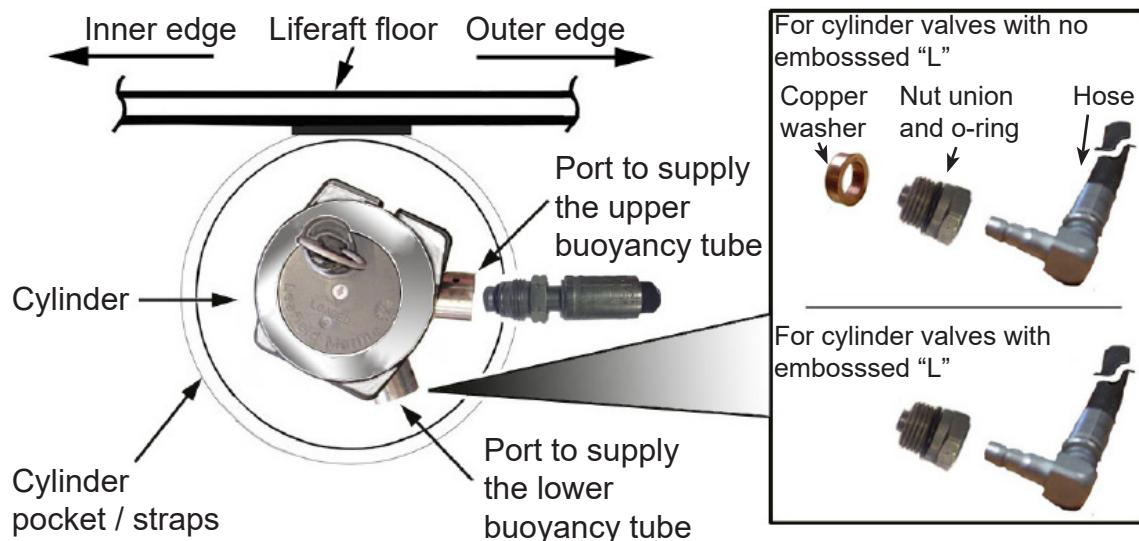

FIGURE 824
Refer to FIGURE 824.
The cylinder must be orientated so that the top operating head outlet, runs parallel with the base of the liferaft. Refer to FIGURE 824.
- 5.17 Check inflation hoses for damage and replace if necessary. Refer to **Appendix 14** for guidance on inspection the inflation hose. Connect each inflation hose. Refer to FIGURE 824. Torque the hose connections as stated in Chapter 1, TABLE 101. Use one turn of white tape with a pull tail on each hose connection to show that they have been torqued.